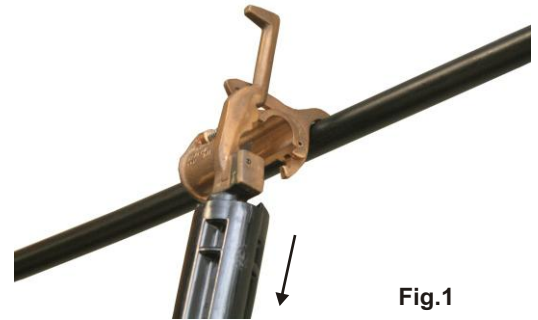

Fig.1
1. Stripper is held in shotgun and latch handle hooked over cable. A downward motion of shotgun will now lock tool in an open position. Or tool can be locked open before placing in shotgun. (Fig.1)